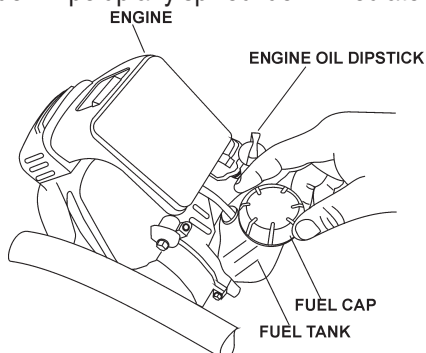

Figure 8. Fuel Tank
1. Fill the fuel tank (Figure 8) with unleaded gasoline. **DO NOT** over fill. Topping-off to filler port is dangerous, as it tends to spill fuel. Wipe up any spilled fuel immediately.